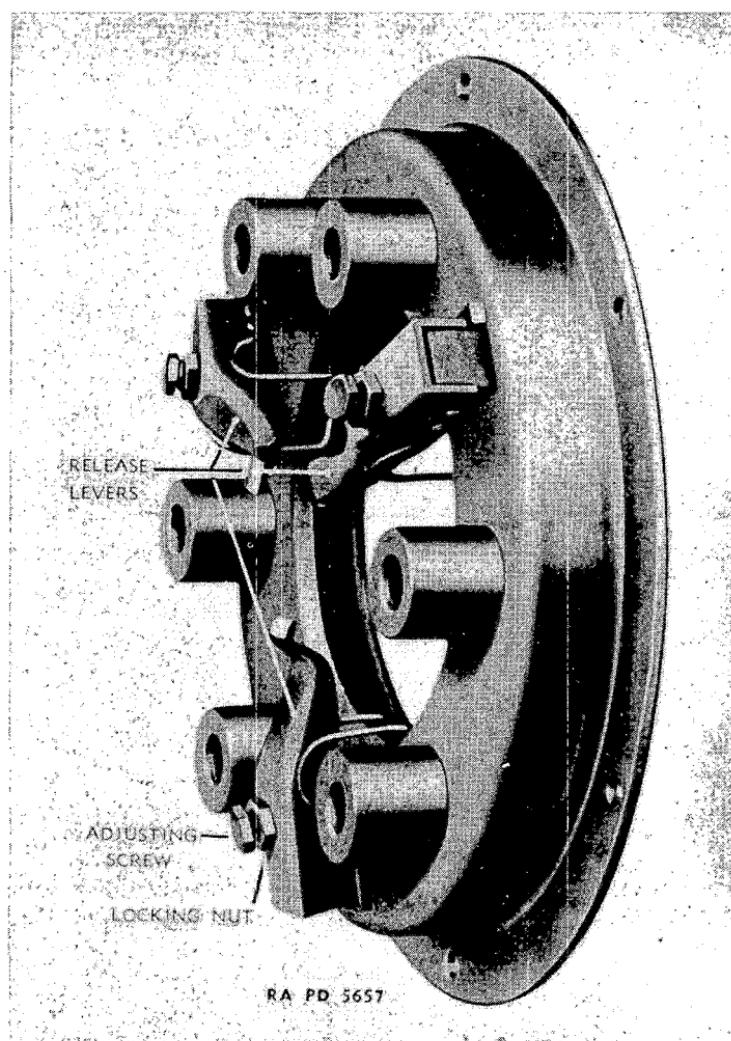

FIGURE 20.—Clutch adjustment.
53. Clutch.—a. General.—A single plate, dry disk clutch is mounted in the forward portion of the torque tube housing. The clutch is of the spring loaded type. It may be adjusted to provide for some free movement of the clutch pedal before the clutch begins to disengage (fig. 20).